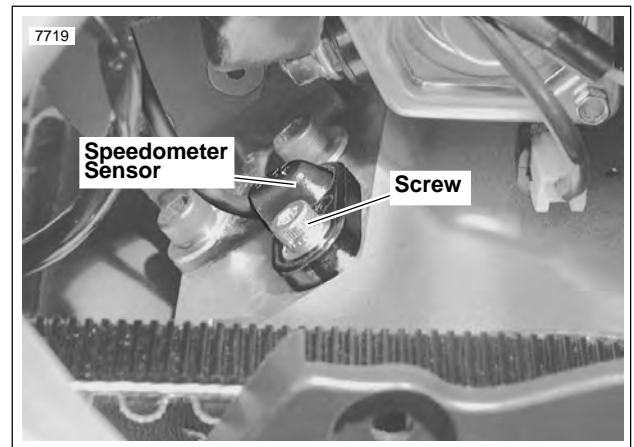

Figure 7-87. Speedometer Sensor
3. See Figure 7-87. Locate speed sensor on engine case right side, to the rear of the starter solenoid.